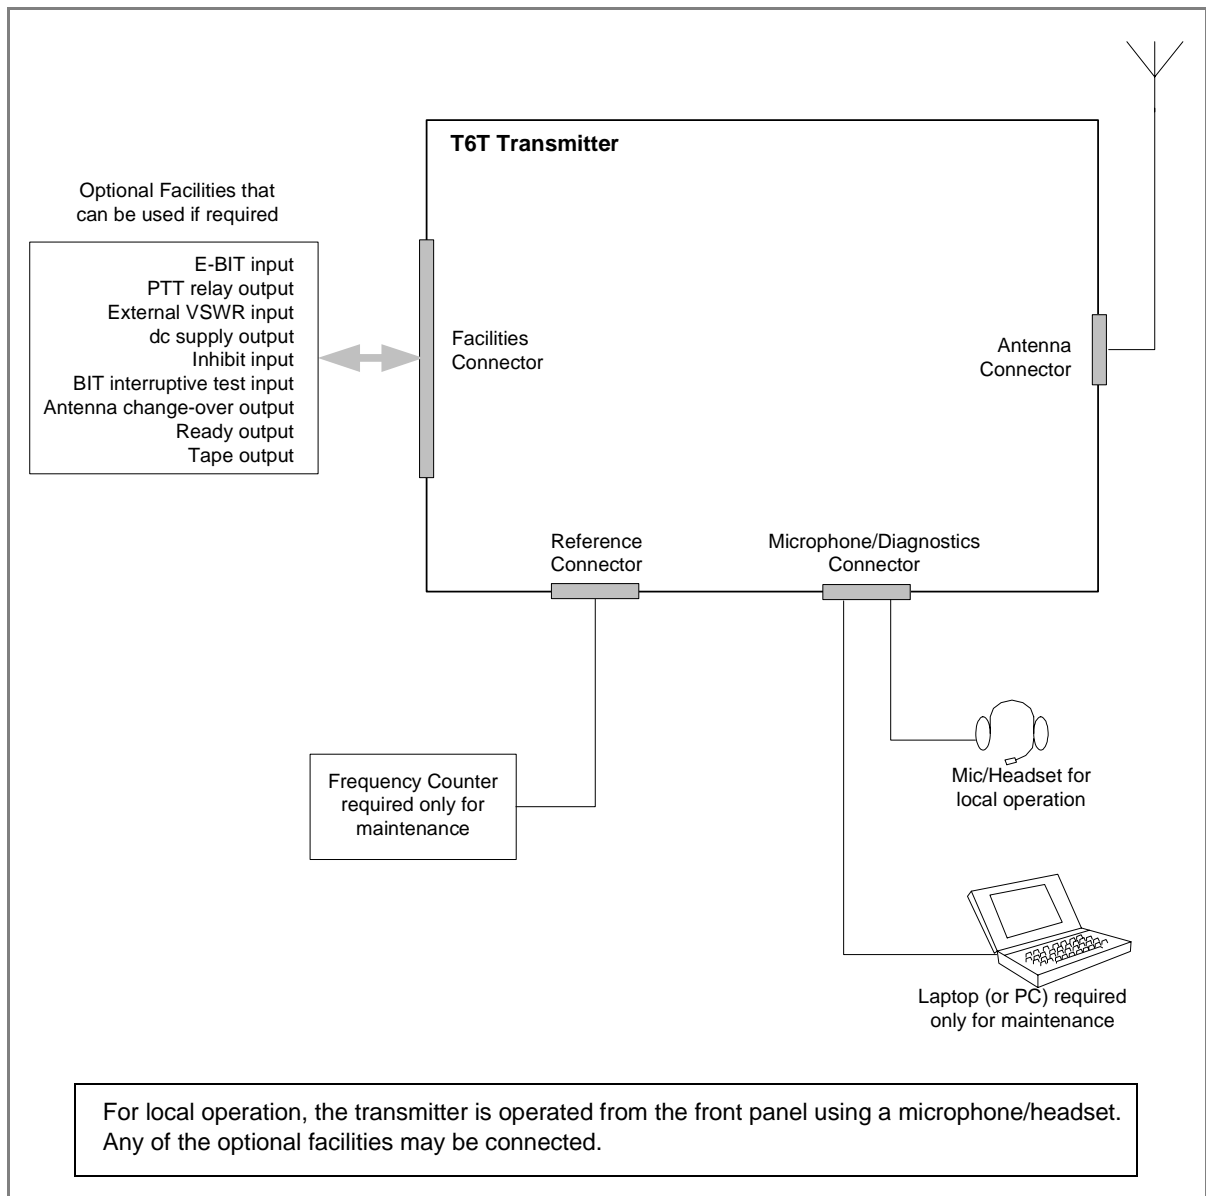
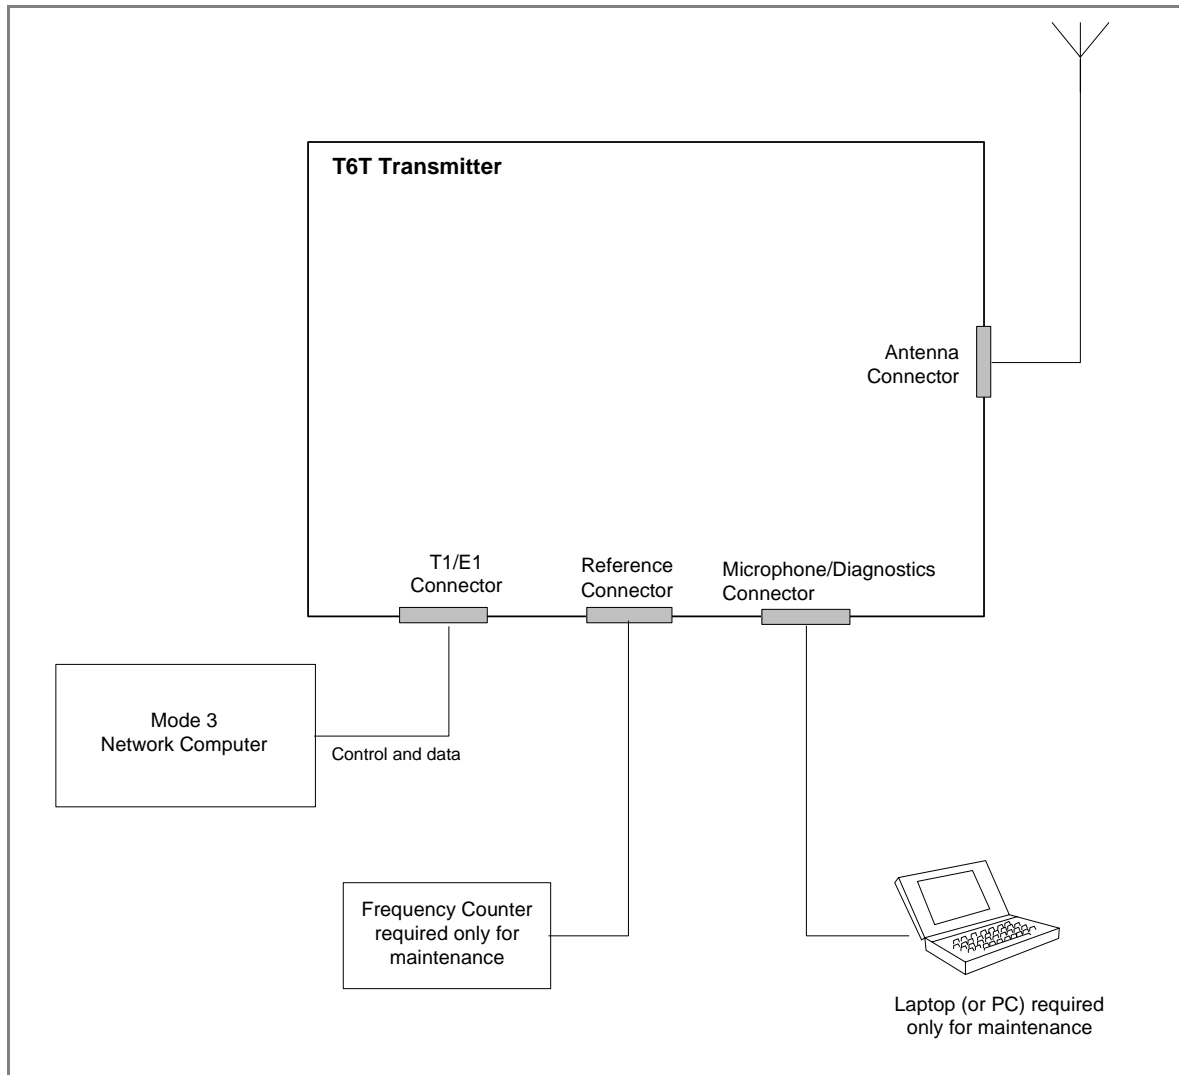

Fig 1 T6T Transmitter Configured for Local Operation
Fig 5 T6T Transmitter Mode 3 Configuration
- ❑ T6T transmitter configured for local operation (see Fig 1).
- ❑ T6T Mode 3 configuration. (see Fig 5).
Making the external signal connections involves configuring the transmitter to suit its operational mode. Illustrations showing various configurations are shown in Fig 1 to Fig 5; these figures should be used only as a guide.